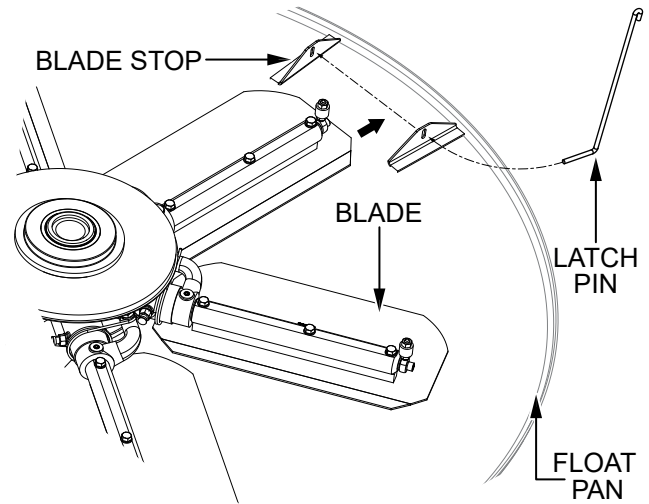

Figure 57. Float Pan Installation (Latch Pins)
1. Lift the trowel just enough to slide the float pan under the blades. Lower the trowel onto the pan with the blades between the blade stops (Figure 57).
2. Rotate the blades so that the blades fit between the blade stops (Figure 57). Be sure to rotate the blades in the same direction as during operation, or use the engine to rotate the blades into position.
3. Route the latch pins through the holes in the blade stops as shown in Figure 57.